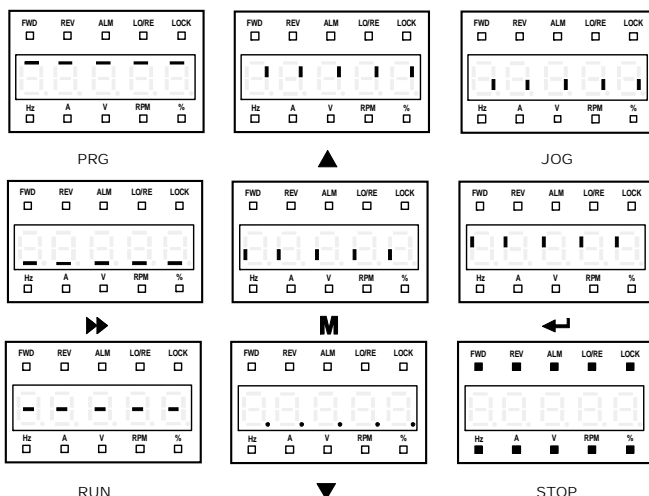

Figure 5-14 Correct correspondence of the keys and the displays
2. Press any key of the display panel and watch the LED and the status indicators to detect the corresponding key is valid. And the correct correspondence is as shown in Figure 5-14.